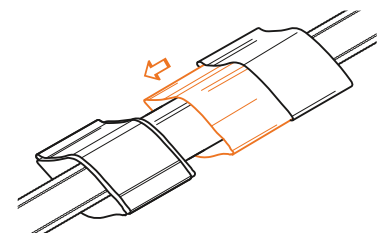

Fig. B11.1.8
8. Position the heat shrink band so that its centre is directly over the end of the Heat Shrink Sleeve (Fig. B11.1.8). Remove the protective foil from the inner surface of the heat shrink band.